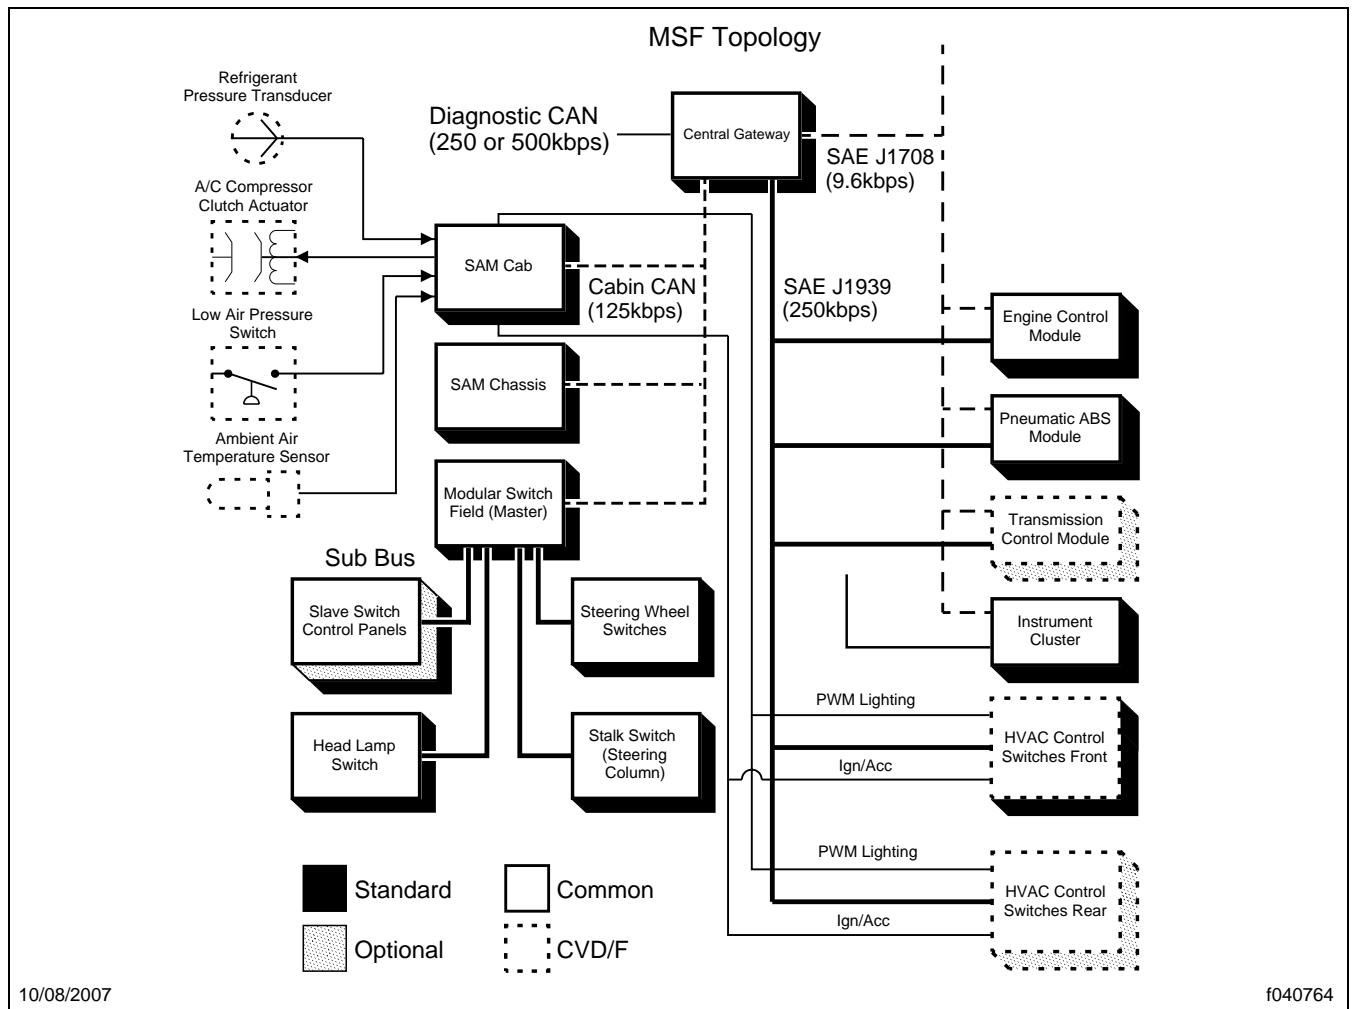
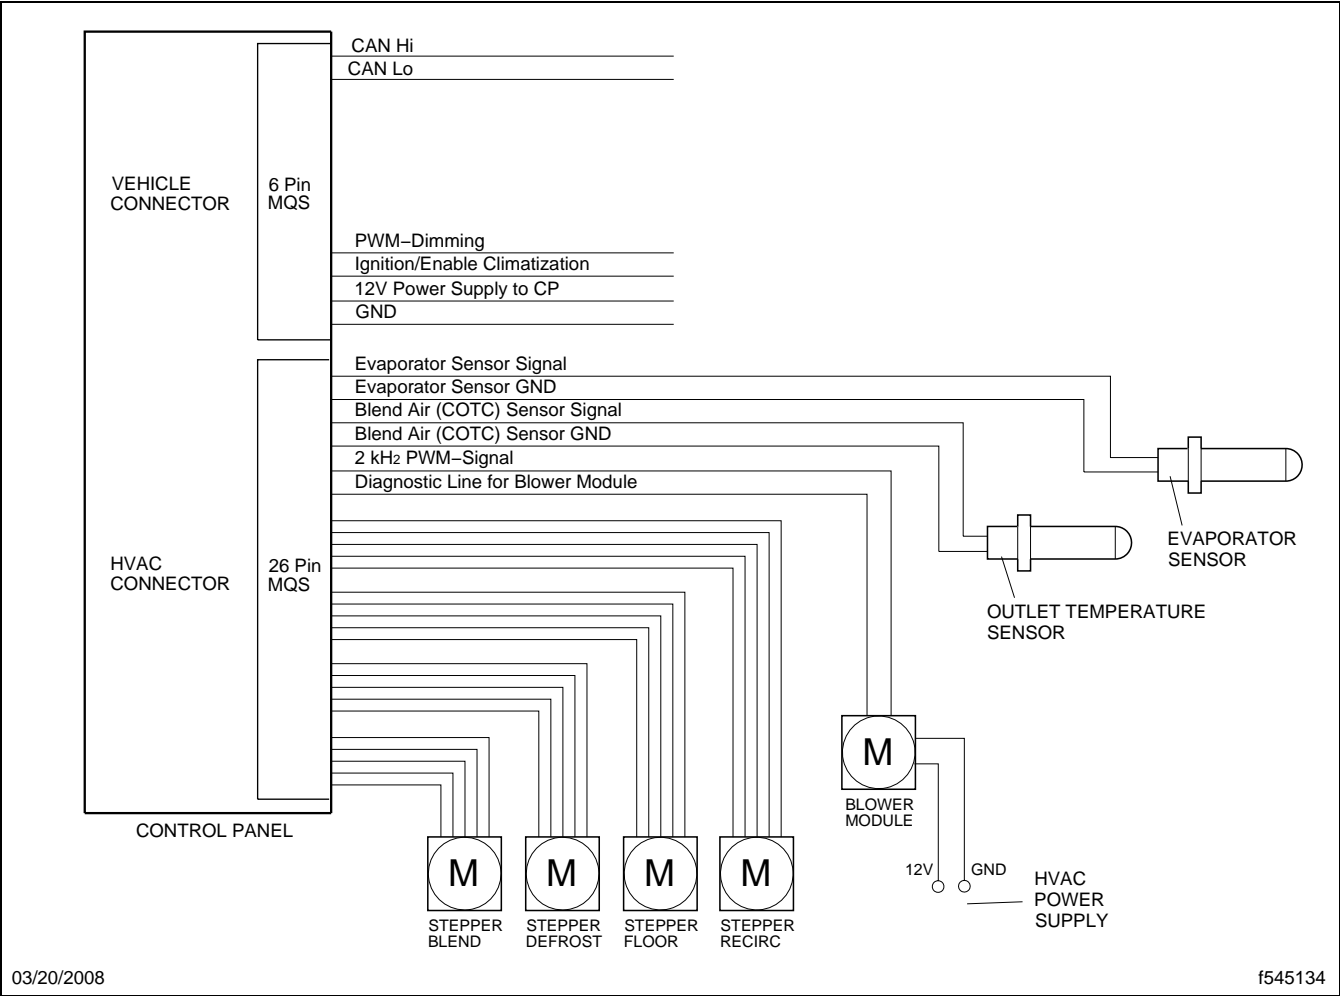
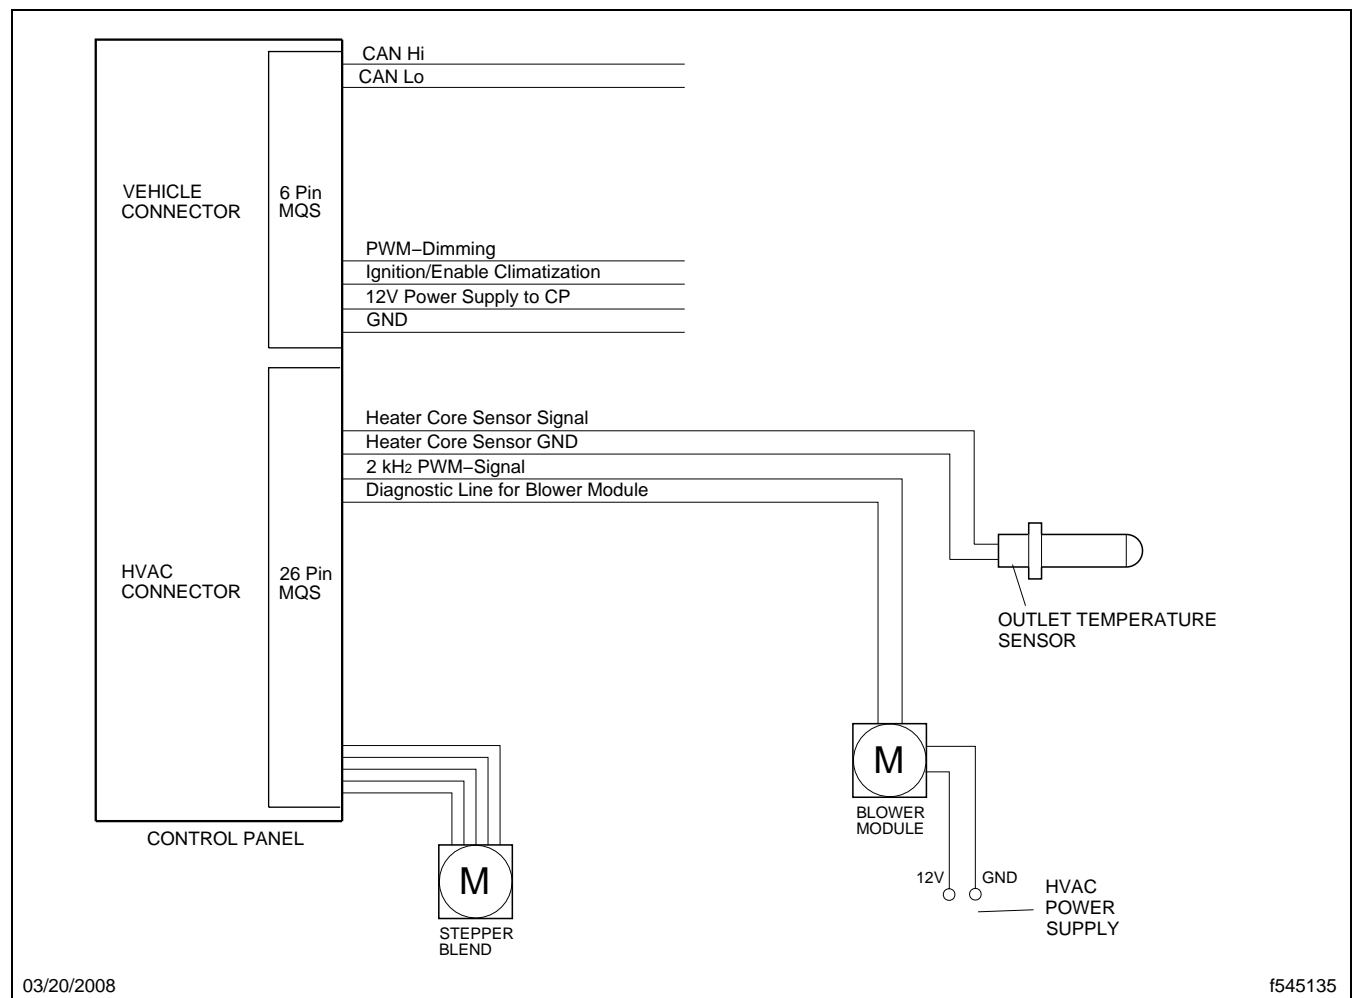

Fig. 1, HVAC System Electrical Control Topology
Fig. 2, Front Control Panel System Architecture
Fig. 3, Rear Control Panel System Architecture
**Figure 1** shows the electrical control topology of the HVAC system. **Figure 2** is a block diagram of the front control panel system architecture. **Figure 3** is a block diagram of the rear control panel system architecture.